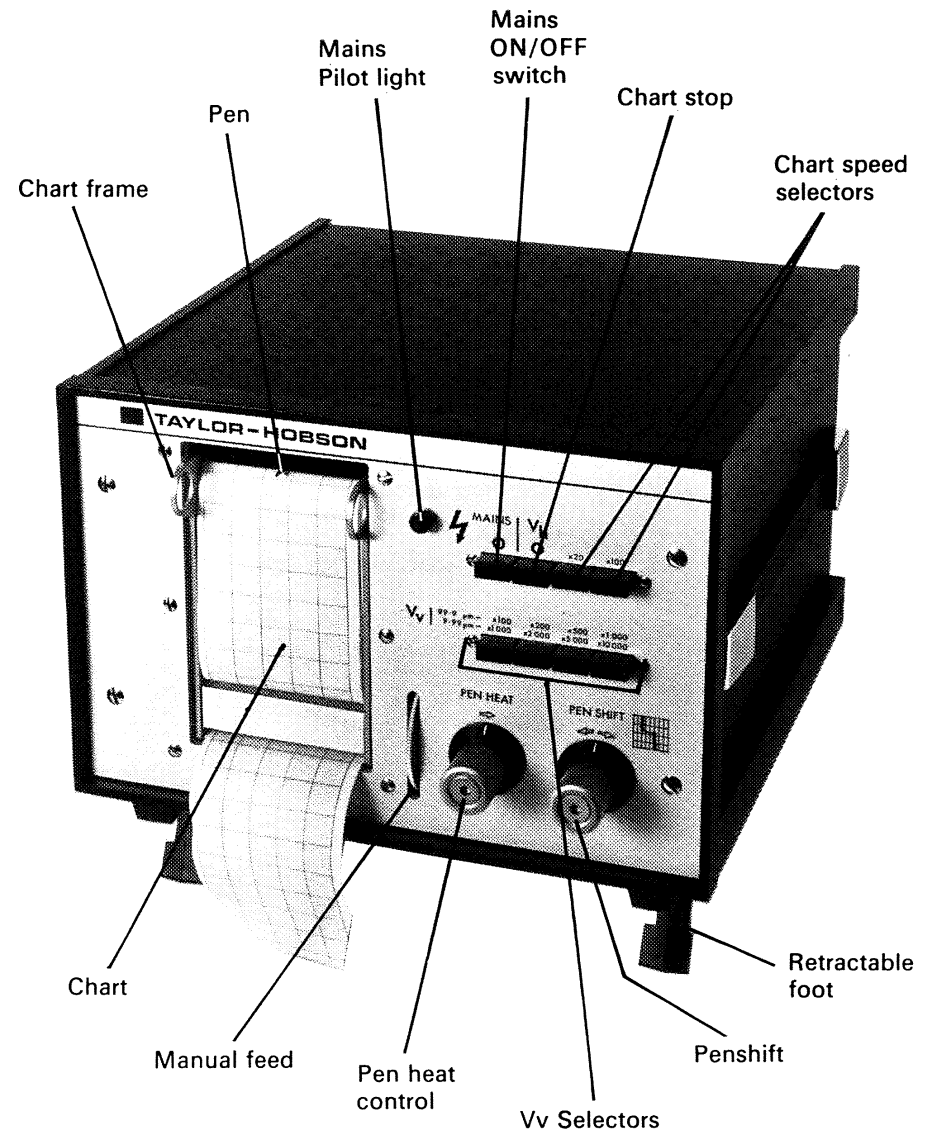

Figure 25 The recorder
The recorder (Figure 25) enables a graph of the unfiltered profile to be recorded at certain selected horizontal (Vh) and vertical (Vv) magnifications. The cut-off filters are not operative during recording and the cut-off switch on the display-traverse unit serves only to select the traverse length. To obtain a true recording, the Record/Ra switch must be set to the "Record" position, which also inhibits the display.
6.3 DESCRIPTION (see also Figure 25)